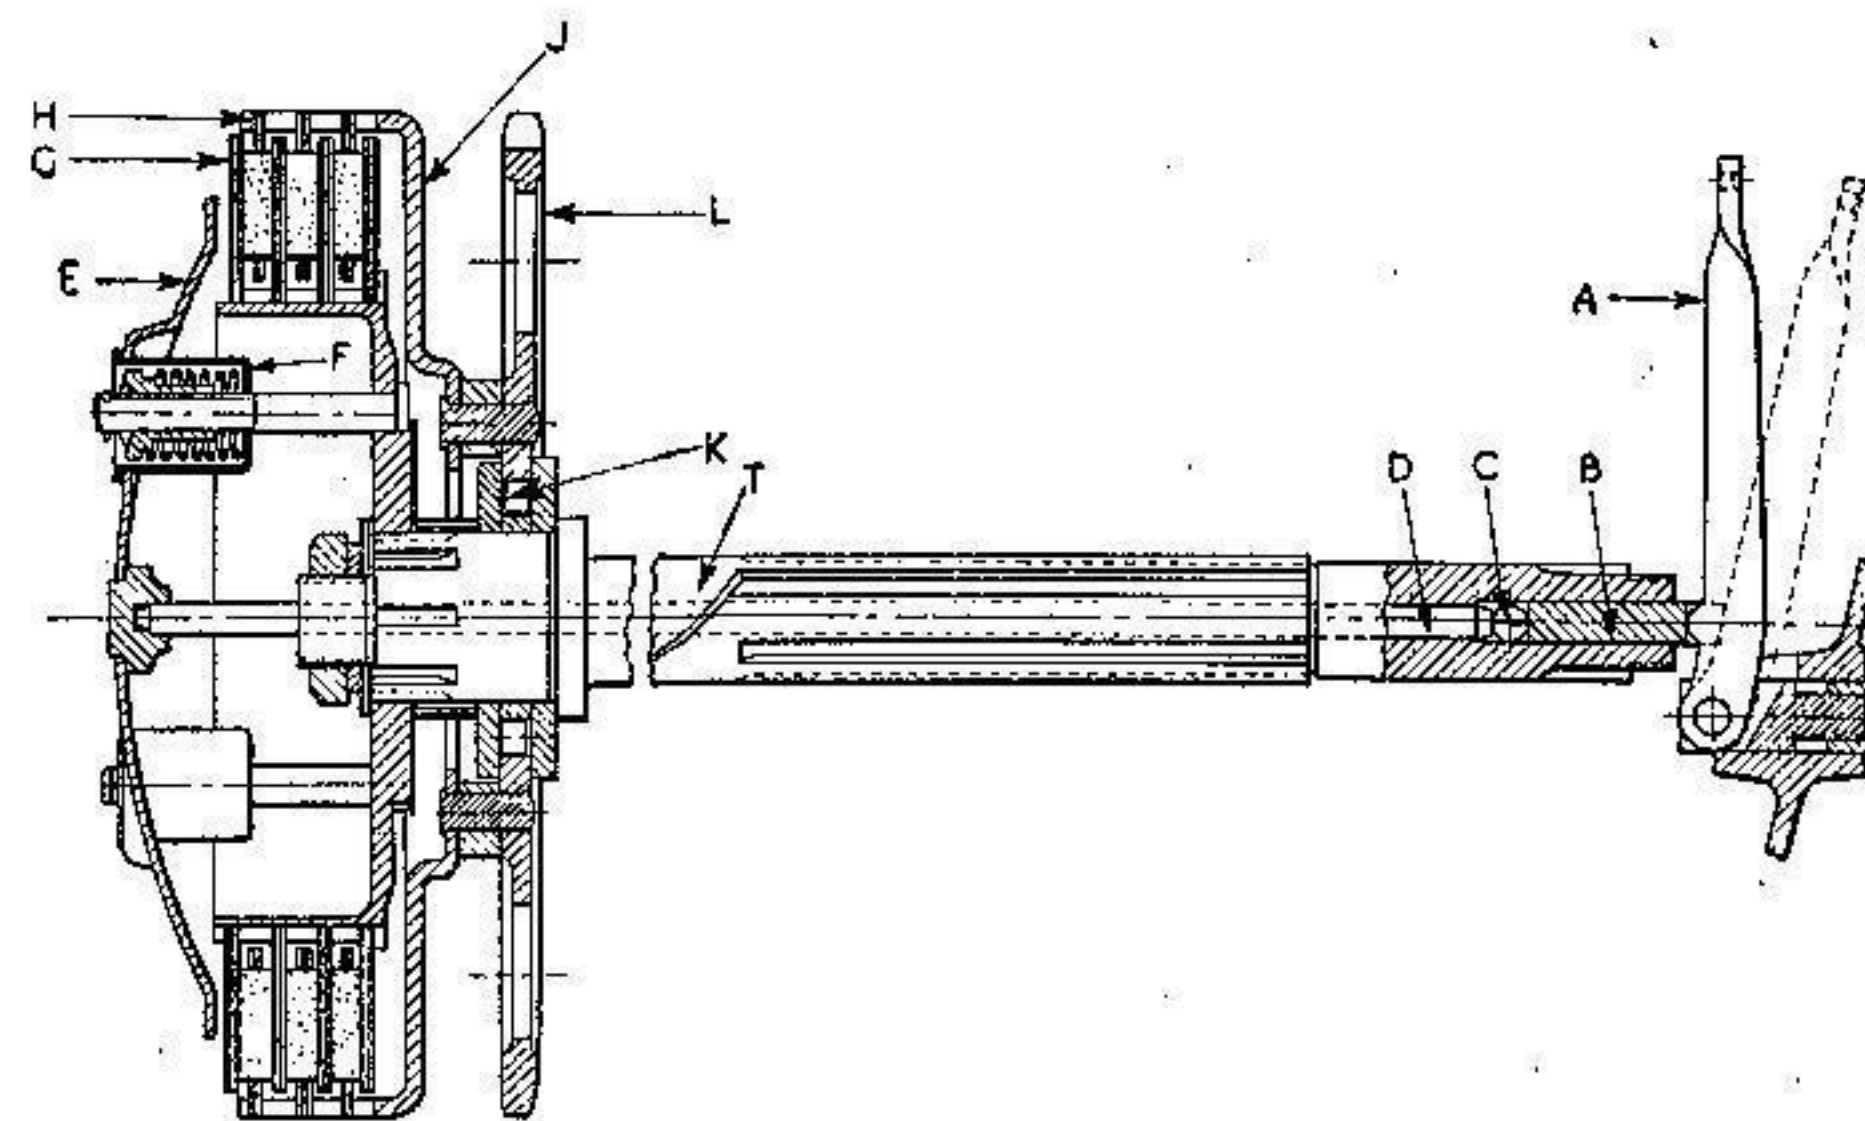

FIG. 43.—ILLUSTRATING CLUTCH OPERATION.
Pressing the handle-bar clutch lever thus releases the pressure on the clutch plain plates (G) and the clutch friction plates (H) (Fig. 43), and enables the clutch sprocket (L), to revolve on its bearing (K) without rotating the clutch hub, which is secured to the mainshaft (T). Consequently no
On allowing the handlebar clutch lever to return to its normal position so that the gearbox clutch-operating lever (A) (Fig. 43) is free, the clutch thrust-rod (D), ball (C), and fork (B), move to the right, under the influence of the
Fig. 43 will show the necessity for this clearance, because it will be noticed that if the clutch thrust-rod is too long, the clutch-spring pressure will be exerted solely on the clutch-rod and not on the clutch steel and friction plates. This will allow the clutch to slip, instead of transmitting the engine power through the gears to the rear wheel.